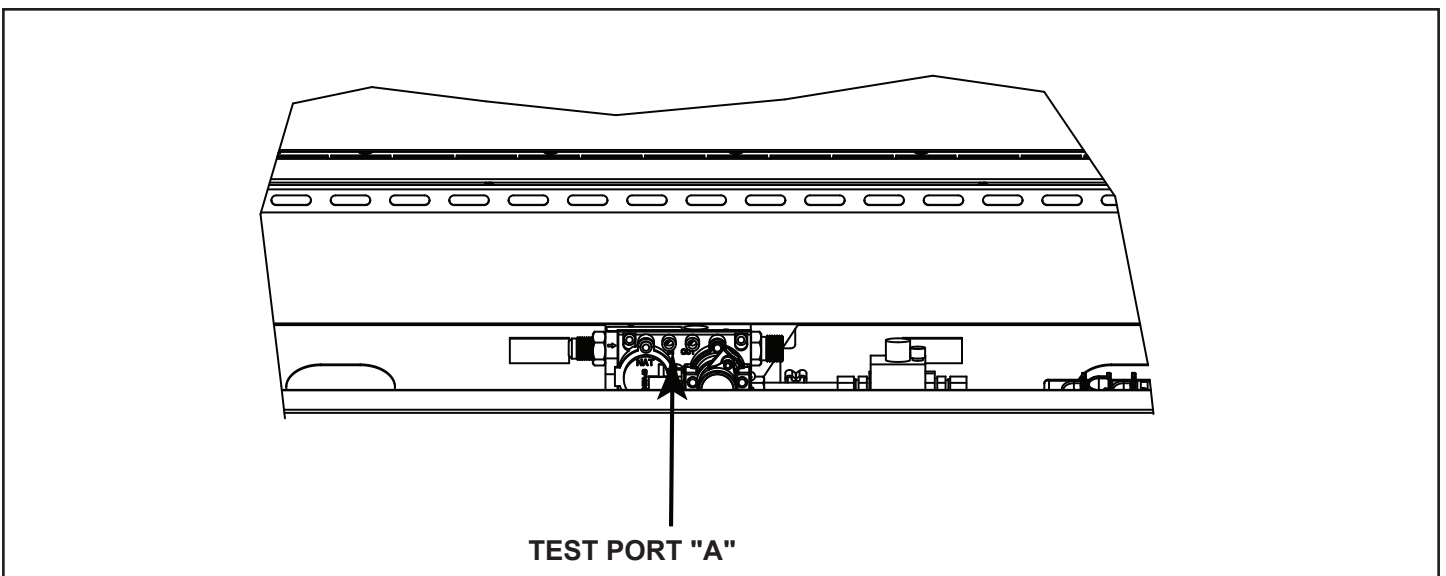

Figure 5.1.- Valve Pressure Tap
- ▶ Valve pressure taps are accessible by lifting the engine assembly. See Figures 5.1 & 5.2.